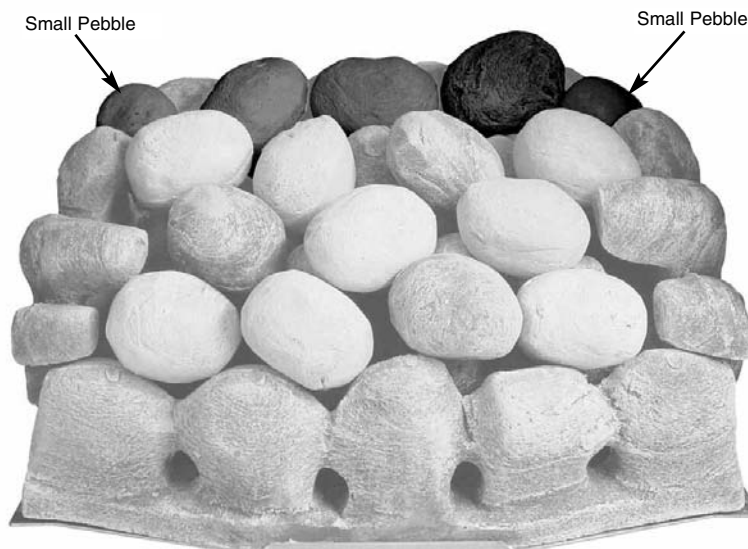

Fig. 32
8. Place the next three pebbles in the middle, on the back edge of the pebbles previously laid ensuring even gaps all round. Finally place the two small pebbles, one in each top corner. Make any adjustments necessary to achieve even gaps as this will help in giving a well balanced flame picture and an even glow (Fig. 32).